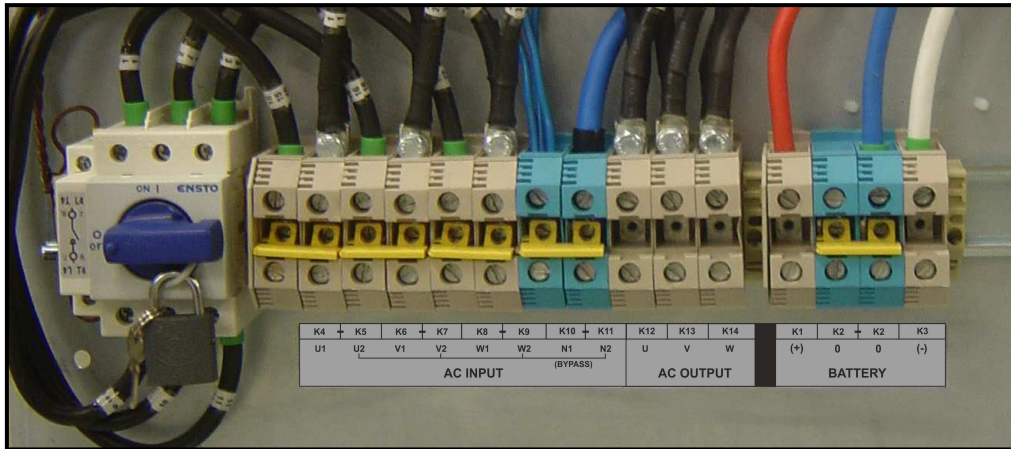

Figure 2.1
Descriptions of the UPS input output cable connection terminals are shown in figure 2.1
2. Connect the 3 phase AC input coming from the mains distribution panel to the AC input terminals as shown on the label. (Figure 2.1)